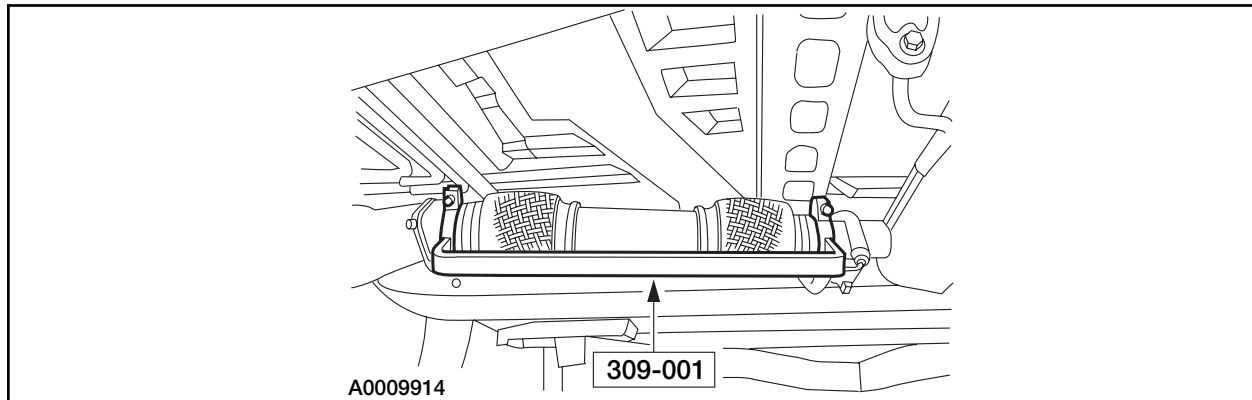

FIGURE 5
9. Install the Flexible Exhaust Pipe Holding Fixture special tool 309-001 onto the flex pipe. See Figure 5.